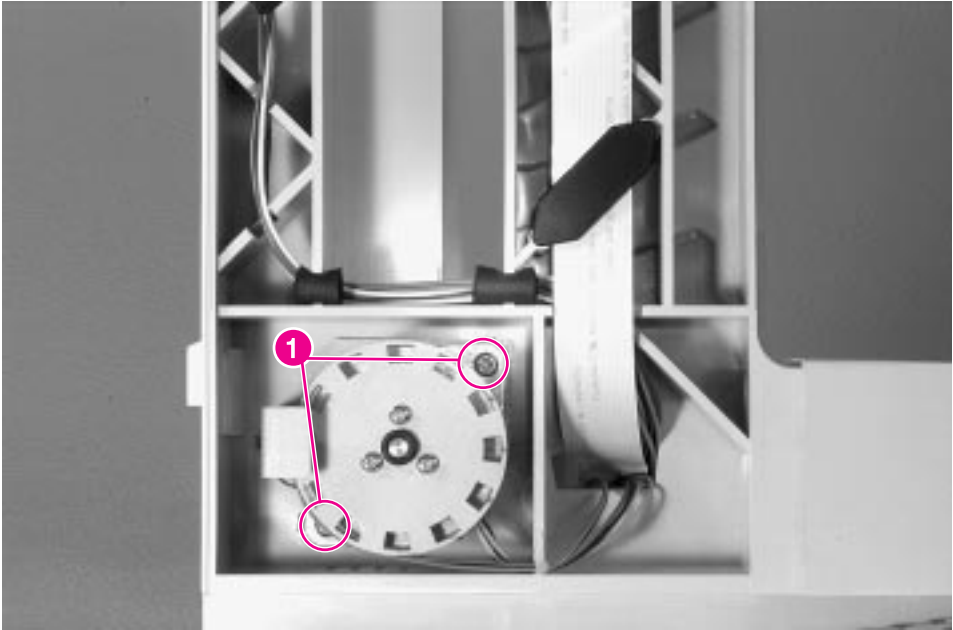

Figure 6-72 Mailbox with Stapler, Transport Belt Motor Screws
- 4 Remove 2 screws from the motor assembly (figure 6-72, callout 1).